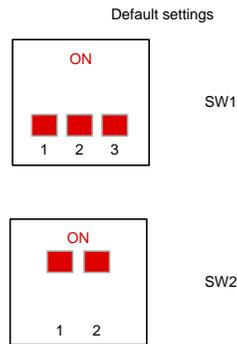

Figure 10. Software Configuration
3. Ensure the position of switches SW1 and SW2 are set to their default setting, as shown in Figure 10, to communicate to PC GUI via SCI-A.